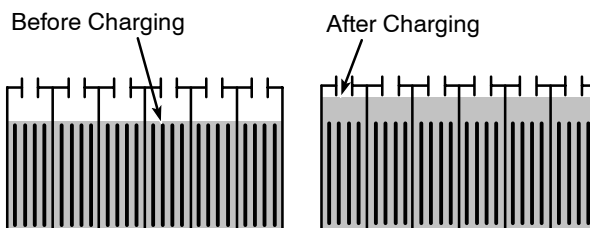

FIG. 64
1. Check battery fluid level frequently to prevent battery damage. The fluid should be at the level shown (Figure 64). Add distilled water if low. DO NOT OVERFILL, the fluid may expand and overflow when charging.